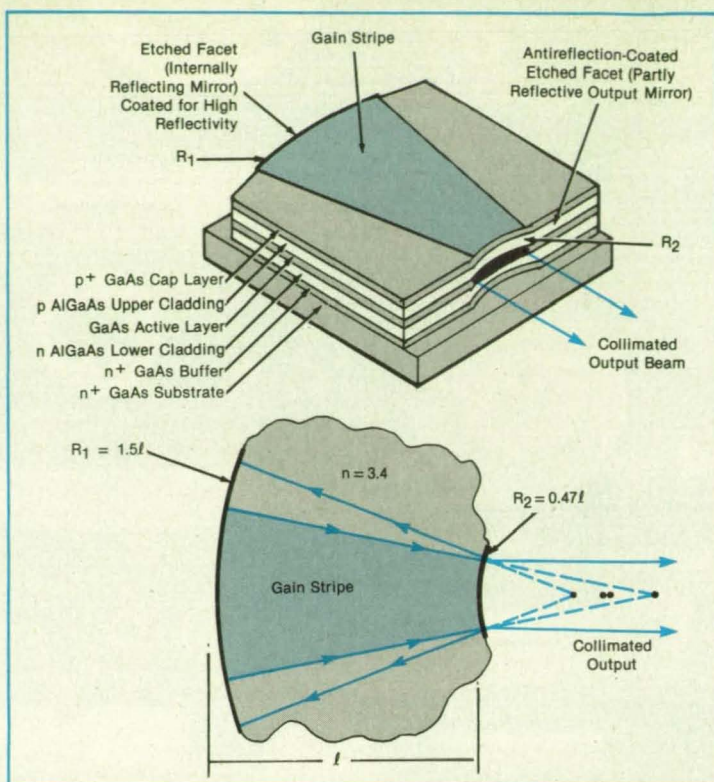

Figure 2. This AlGaAs Laser exemplifies the proposed self-collimated, unstable-resonator concept.
A laser of the new type would include a highly internally reflective mirror facet of larger radius R_1 and an anti-reflection-coated (partly reflective) output mirror facet of smaller radius R_2 (see Figure 2). The design of the laser involves calculations of the relationships among R_1 , R_2 ; the longitudinal distance, l , between mirror facets; the widths and angles of convergence or divergence of the beam at various locations; and the index of refraction, n , of the laser-resonator material. Given n , one chooses R_1 , R_2 , and l to satisfy (1) the geometrical constraints on an unstable resonator; (2) the requirement that the output beam refracted through the R_2 surface be a narrow, diffraction-limited, collimated beam; and (3) the requirement that the beam not come to a focus within the laser resonator.
Calculations for an AlGaAs laser like the one shown in Figure 2 show that a self-collimating unstable resonator without an internal focal spot is possible if the magnification is chosen to be less than 1.833. The lower part of Figure 2 shows the relative dimensions at a magnification of 1.5.